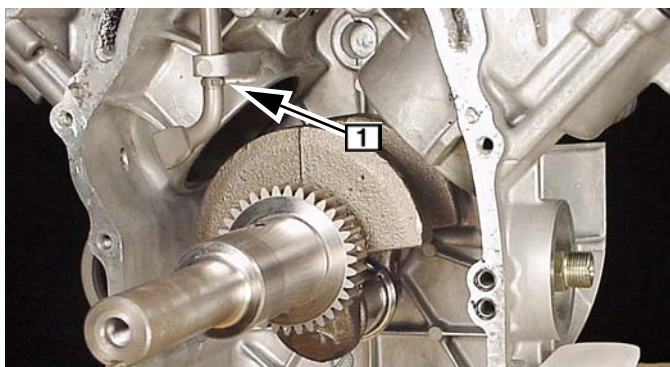

Fig. 136
2. Lubricate and install new governor shaft oil seal in cylinder. Then lubricate and install governor shaft **1**, Fig. 136.